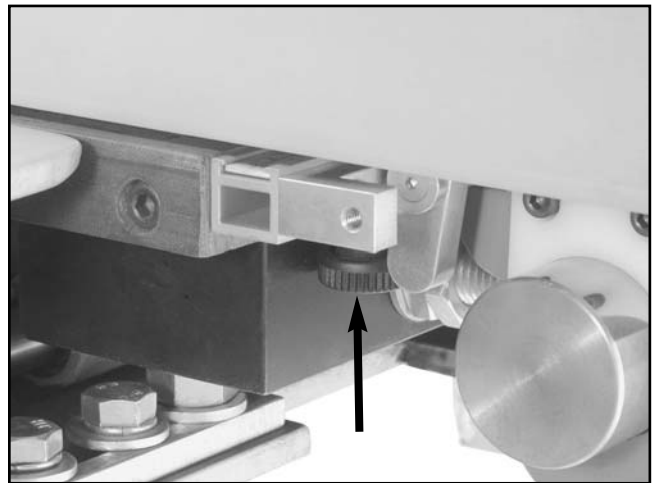

Figure 58. Rip fence scale lock knob.
6. Loosen the scale lock knob (**Figure 58**), adjust the scale 0" mark even with the fence, and tighten the scale knob to keep the scale in place.